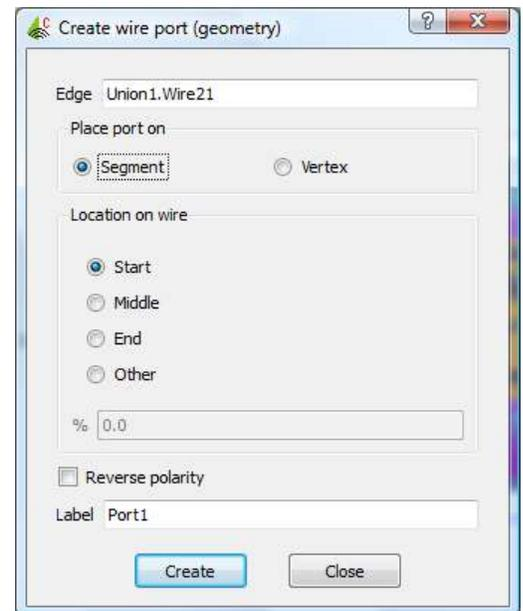

Figure 15.
18. After meshing is complete, you need to assign a port to feed the antenna with the excitation needed. From the side menu, right click “Ports” → “Create Port” → “Wire Port”. A window like Figure 15 pops up. From the geometry tree on the left side menu, click on the “Union1” geometry, expand the “Edges” tree in the bottom side menu, and choose the “Wire xx”. Automatically, the name of the wire is substituted in the port window as shown in Figure 15. Keep the label as “Port 1”, hit “Create”.